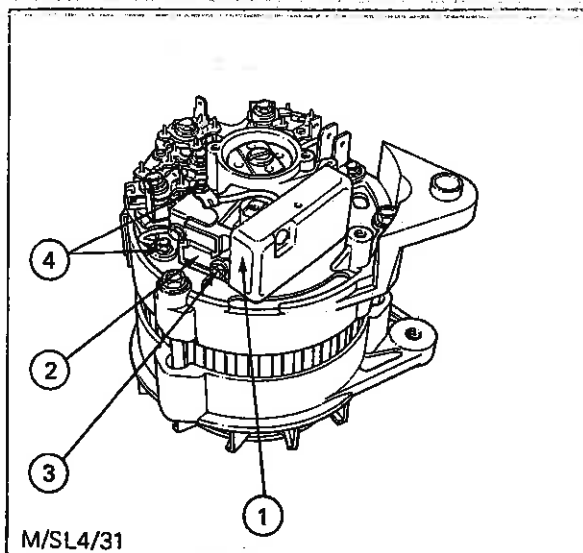

Fig. 53 - Replacing the Regulator
3. Place regulator (1) in position with its lips located in the slot in the brush box - see Fig. 53.